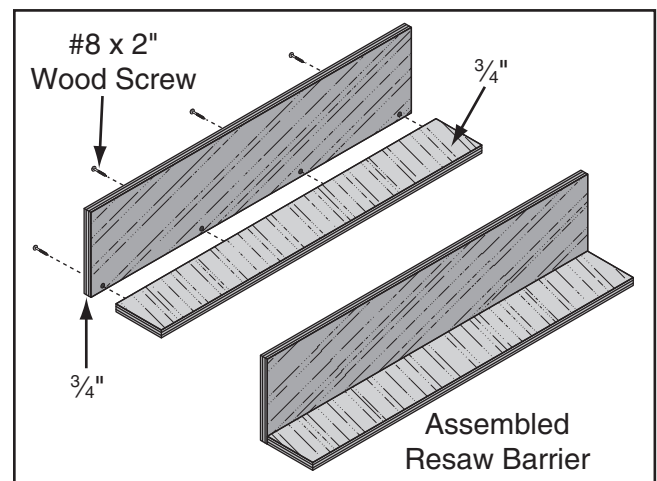

Figure 64. Resaw barrier.
3. Glue end of 3" board, clamp boards at a 90° angle with larger board in vertical position, as shown in **Figure 64**, then fasten together with wood screws.